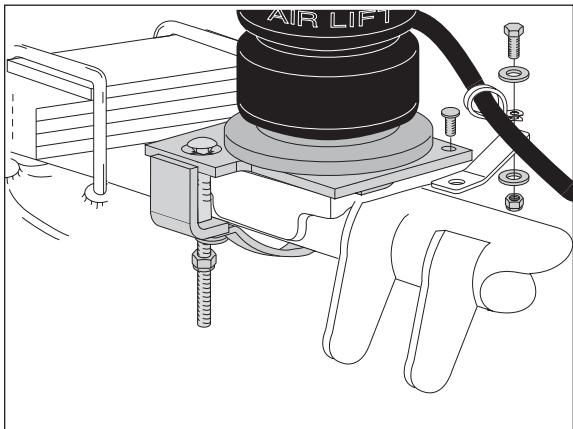

Figure 6
2. Attach the brake line clip (N) onto the emergency brake line bracket (Figure 6).